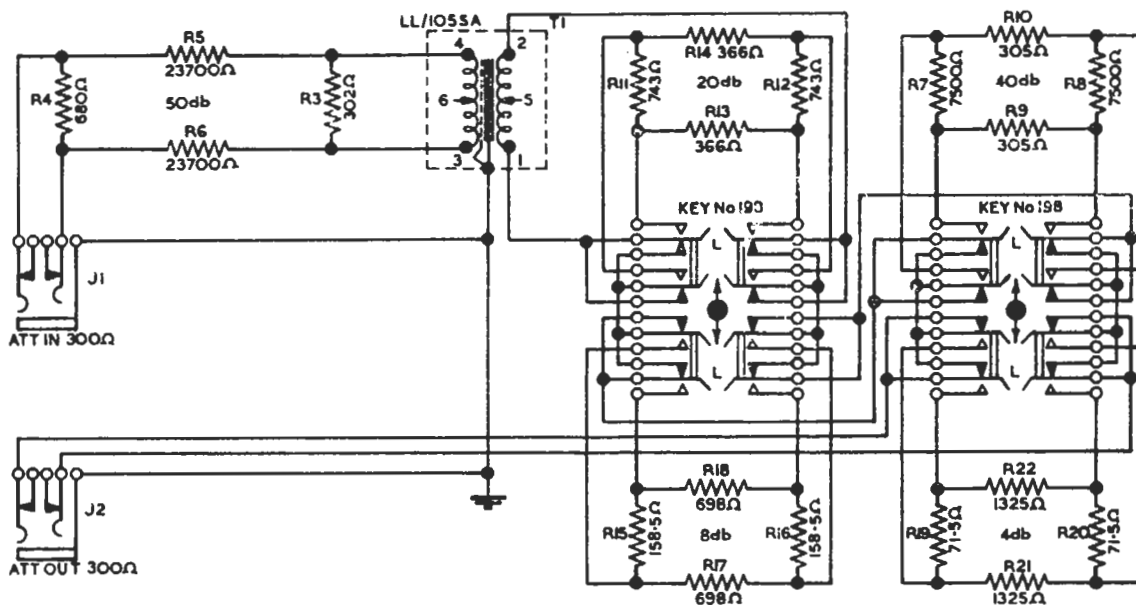

Fig. 6.2. Attenuator Circuit OBT/2
**Attenuator Panel. Fig. 6.2**